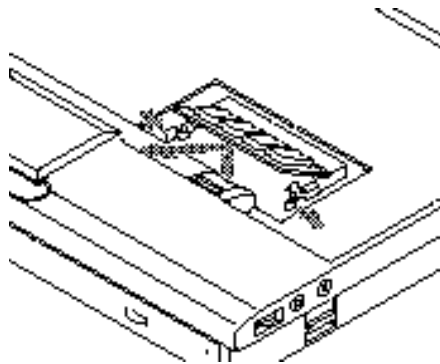

Figure 4-3 Removing the RAM Module
2. **Pull clips sideways from each side of the RAM Module.** (Figure 4-3).